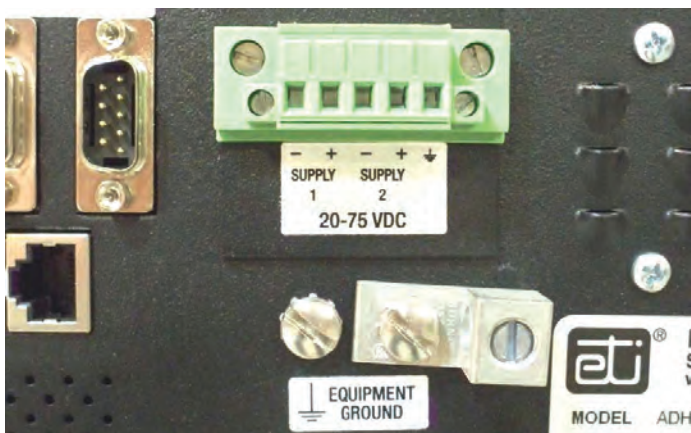

FIGURE 7. ADH NETCOM DC Rear Panel Detail.
6. For AC units, after connecting the ground wire, make sure that the unit power switch is in the OFF or "O" position, then plug in the power cable to a surge protecting electrical outlet power strip. Leave the power switch in the OFF position. DC units do not have a power switch so the unit is functional as soon as the DC power cable is connected. Refer to Figure 7.